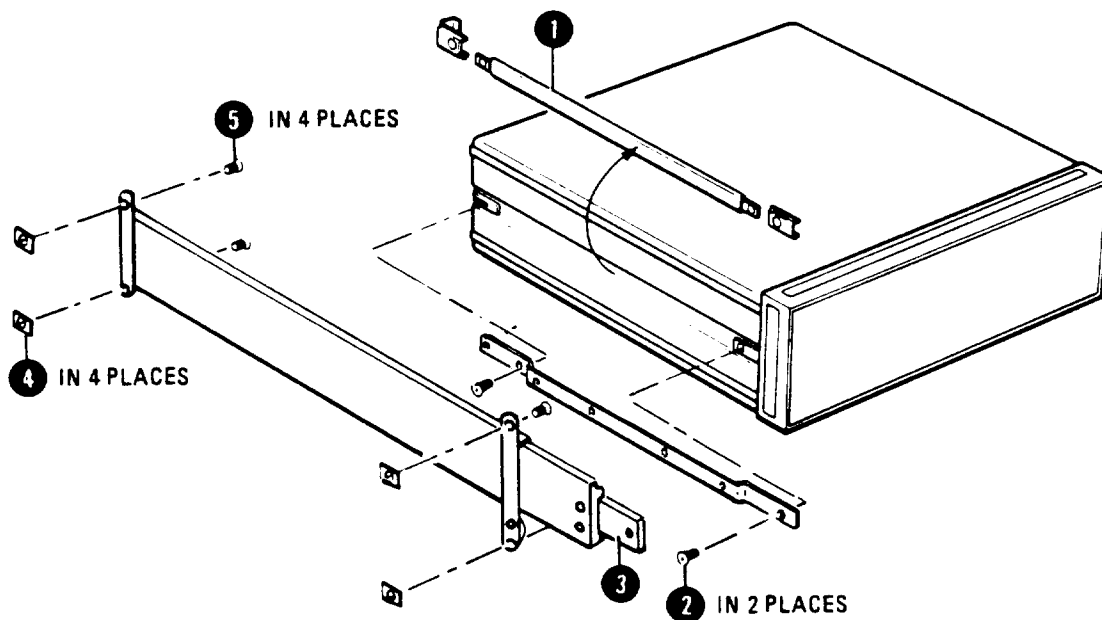

Figure A-11. Option 010: Attaching Rack Mount Slides
Instrument Option 010 contains the hardware necessary to mount the spectrum analyzer with slides in a rack of 482.6 mm (19 inches) spacing. The kit also contains adapters for mounting non-HP racks. The slides provide extra support at the sides of the instrument in the rack and are recommended because of the weight of the instrument. Refer to Figure A-11 and the following instructions to install the slides.
2. Attach one slide inner member bracket to each side of the instrument, using two M5x0.8x10 pan head screws per side (see Figure A-11).